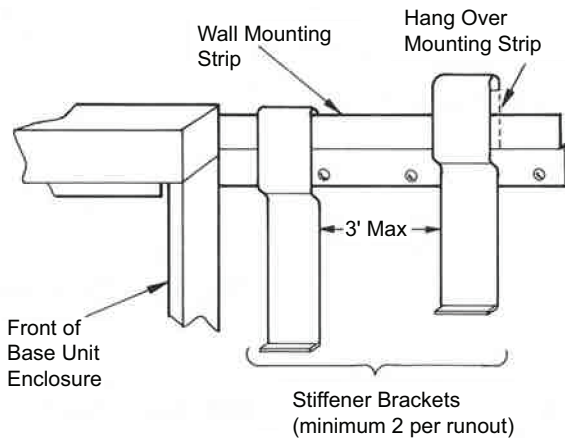

Fig. 9 — Positioning Stiffener Brackets
2. Place stiffener brackets on wall mounting strip. See Fig. 9.